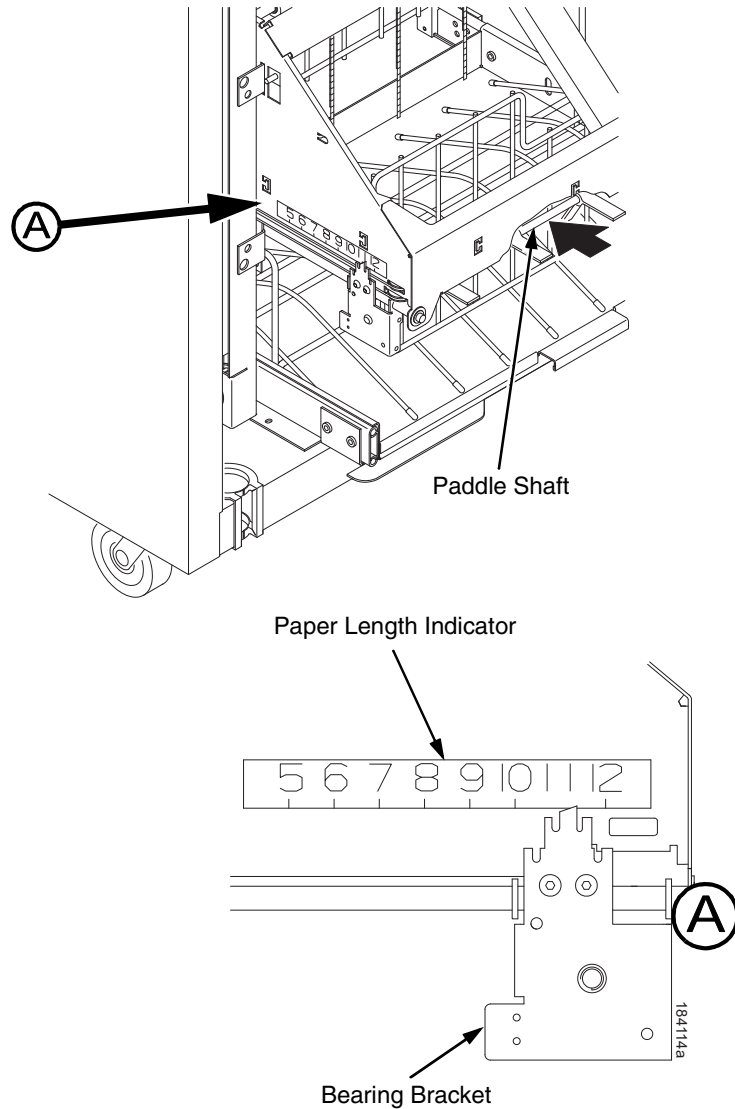

Figure 70. The Paper Length Indicator
5. Push or pull the paddle shaft toward the front or the rear of the printer to set the desired paper length. Align the indicator notch on the bearing bracket with the paper length indicator. The power stacker can handle paper or forms from 5 to 12 inches (12.7 to 30.5 cm) long. (Figure 70.)